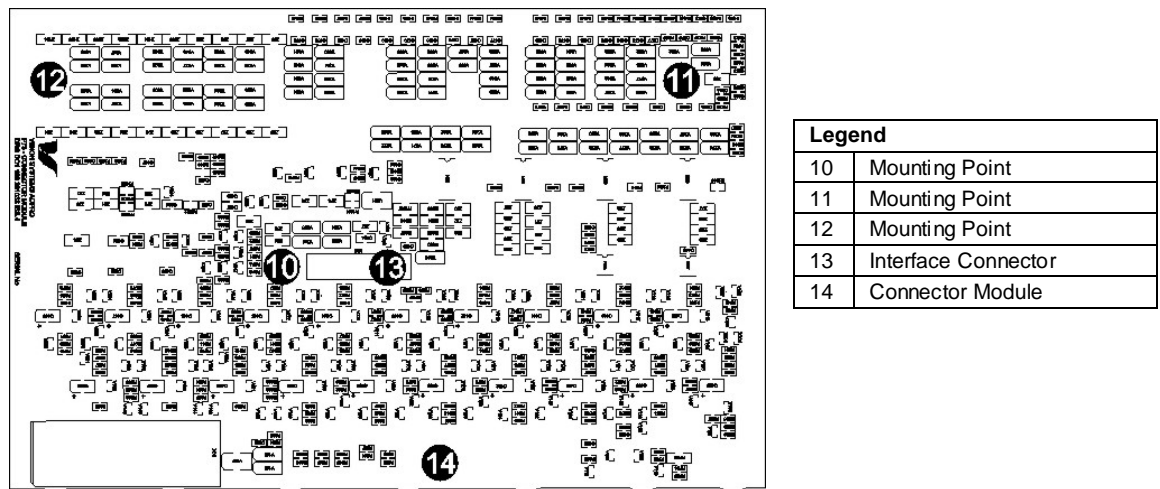

Figure 2 – FastTrace / FastTx Connector Module – Front View
4. Unclip the air baffle at point (1), and unplug the power cables (5) from all the HDDs.
6. Release the HDD mounting frame (2) by using the nut driver to undo the lock nut (3). Slide the frame towards the front of the chassis to disengage. Remove the frame (2) and airflow baffle (7).
7. Remove only the 3 mounting screws (10), (11) and (12) from the connector board (refer to Figure 2). The remaining screws must be left in place.
8. Screw the two male-male PCB stand-offs supplied with the Down-the-Coax Module to the FastTrace / FastTx connector module at (10) and (11) (refer to Figure 2).
9. Screw the male-female PCB stand-off supplied with the Down-the-Coax Module to the FastTrace / FastTx connector module at (12) (refer to Figure 2).